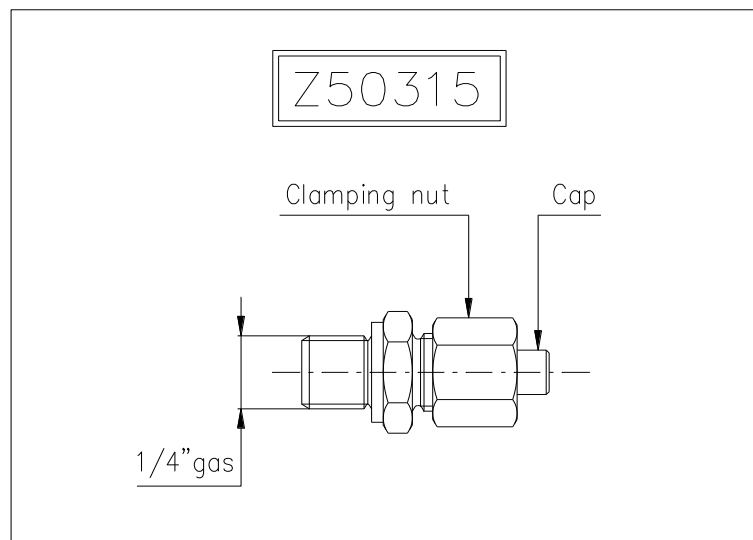

Figure 2
5. The brake is supplied with a bleed vent (Z50315). To bleed air out of the circuit, loosen the retaining nut of the fitting and pull the tubular cap outward. After bleeding off the air tighten the fitting again (Figure 2).